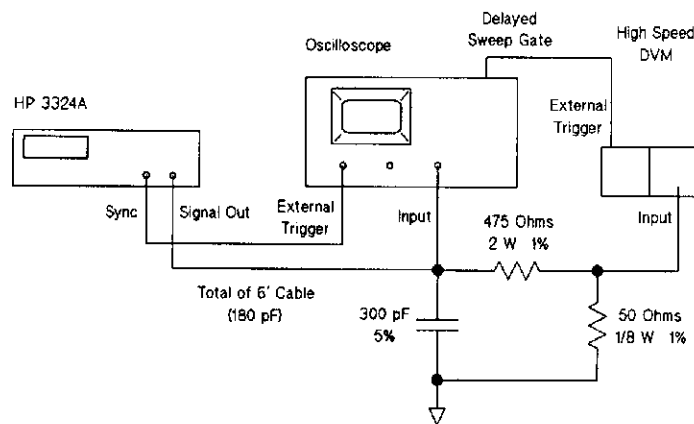

Figure 12-6. Function Amplitude Accuracy Test Set-Up (High-Voltage Output)
4. **High-Voltage Function Test.** Connect the equipment as shown in Figure 12-6.
5. The voltage divider shown in Figure 12-6 is built into a small metal box with 2 BNC connectors. Parts used are:
Connect the tap to the input of the high-speed voltmeter, as shown in Figure 12-6.
1. Connect the HP 3324A output to an oscilloscope with a 500 Ω , 300pF load (load attached at either end). The cable capacitance (30 pF/foot) must be included in the 300 pF. The HV divider (Figure 12-6) may be used with 6 feet of cable.